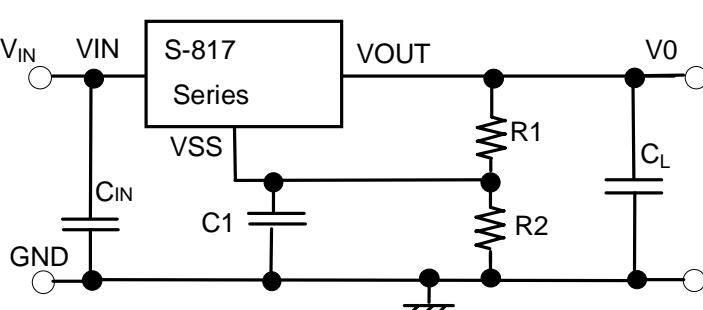

Figure 13 Voltage Adjustment Circuit
The output voltage can be boosted by using the configuration shown in Figure 13. The output Voltage  $V_O$  can be calculated using the following equation (VOUT (E):Effective output voltage):